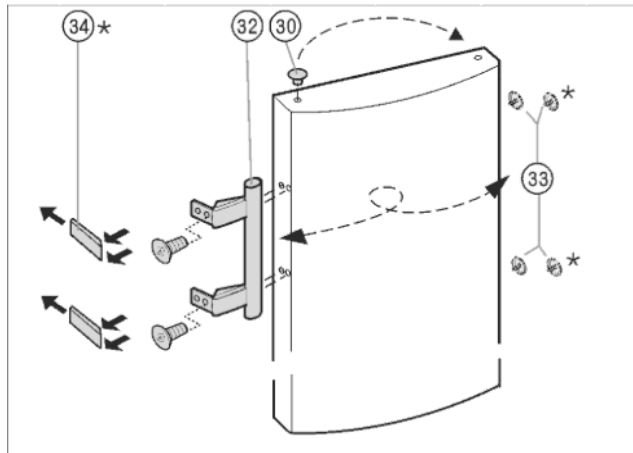

Fig. 8
- ▶ Lift the stopper Fig. 8 (30) out of the door bearing bush and transfer it.
- ▶ Dismantle the door handle Fig. 8 (32), stoppers Fig. 8 (33) and pressure plates\* Fig. 8 (34) and transfer to the opposite side.